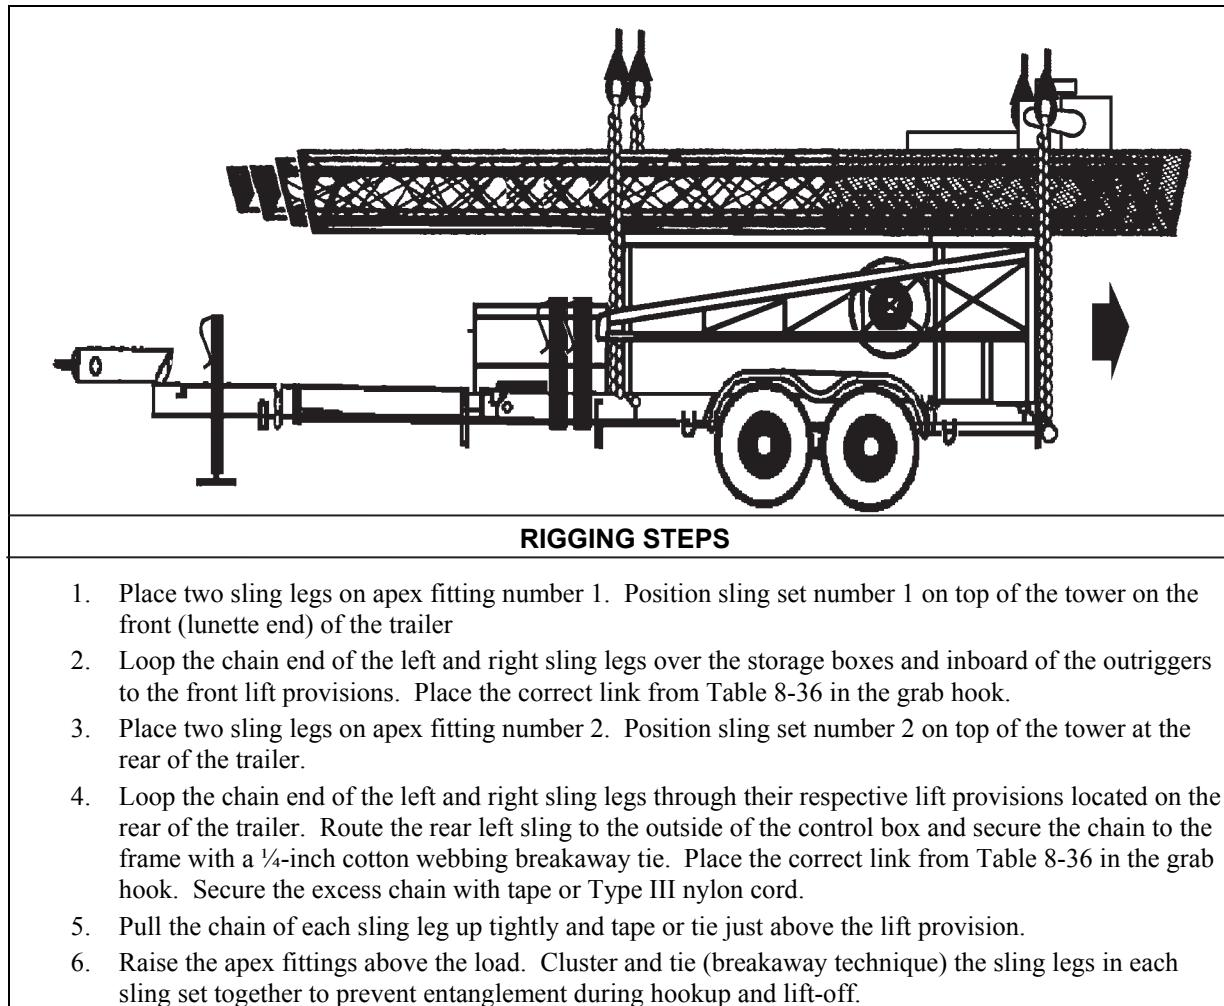

Figure 8-36. SRS-106 Integrated Tower Systems Portable Tower Trailer
- **Rigging.** Rig the load according to the steps in Figure 8-36.